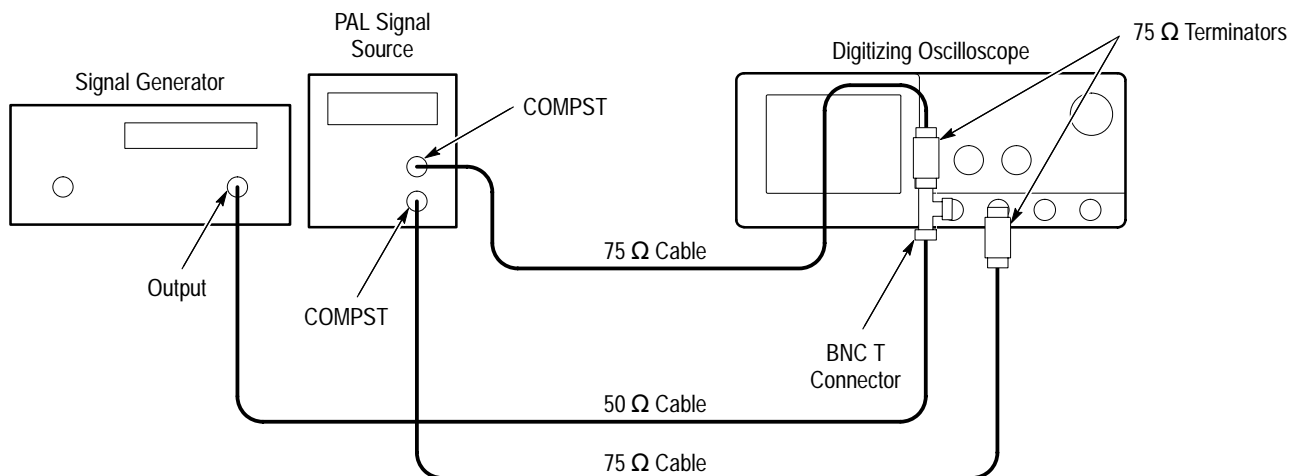

Figure 1–32: Subsequent 60 Hz Rejection Test Hookup
- Connect another composite signal connector of the PAL signal source (labeled **COMPST** on the TSG 121) through a 75  $\Omega$  cable and a 75  $\Omega$  terminator to the CH2 input. See Figure 1–32.
- CONFIRM that the **TRIG'D** LED stays lighted and that the waveform on screen is stable. In other words, be sure the waveform does not move horizontally or vertically. Also, confirm that the waveform on the screen has one positive pulse and a number of negative pulses. See Figure 1–33.